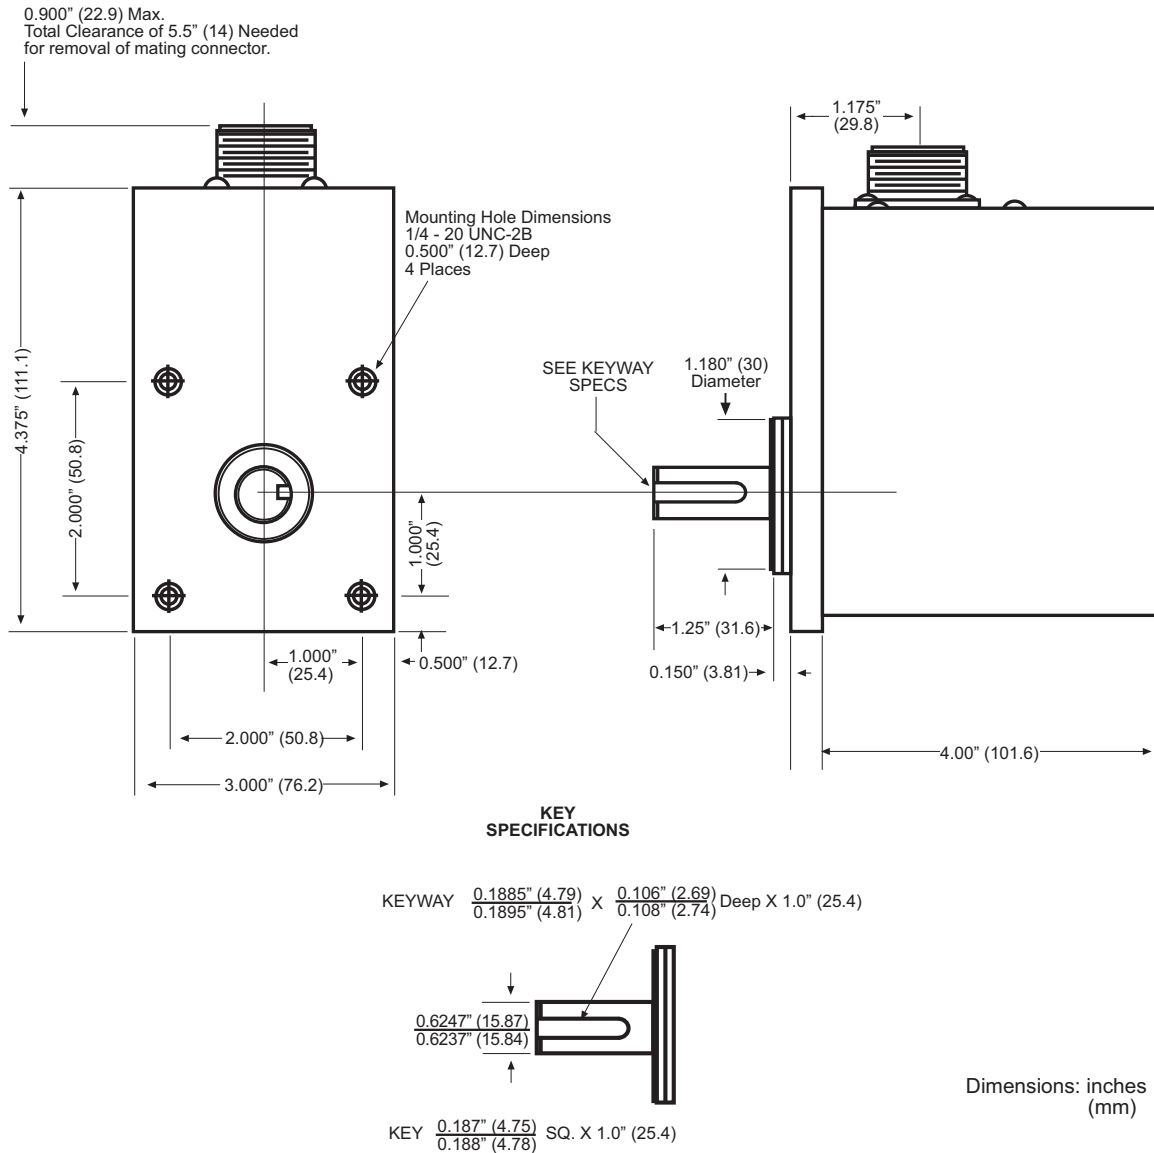

Figure 1. Multi-turn Resolver Mounting Dimensions
To mount the multi-turn resolver, perform the following steps, referring to Figure 1, page 2 for resolver mounting dimensions:
4. Mount the resolver, referring to Figure 1 for dimensions.
7. Fabricate a coupling to connect the resolver shaft to the ram adjust shaft, referring to Figure 1 for keyway dimensions.